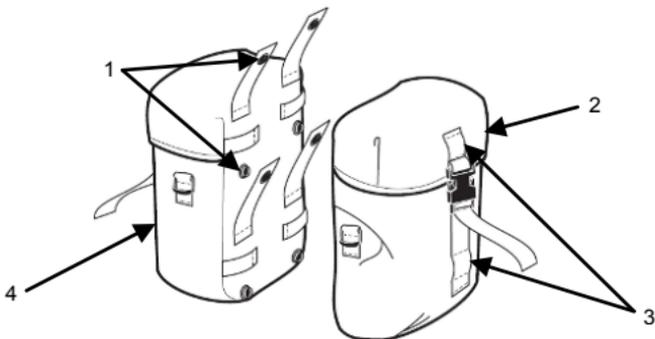

Figure 20. Side Sustainment Pouch.
2. Utilizing the MOLLE II attachment straps on back of pouch, weave four vertical attachment straps through corresponding slots (Figure 20, Item 3) on main pack front, starting with top-most webbing on side of pack. Do the same thing on the opposite side.
3. Secure all snaps (Figure 20, Item 1) on back side (Figure 20, Item 4).
5. Ensure the two side compression straps on the MOLLE II main pack are secured through the two slots on the front (Figure 20, Item 2) of each side sustainment pouch.